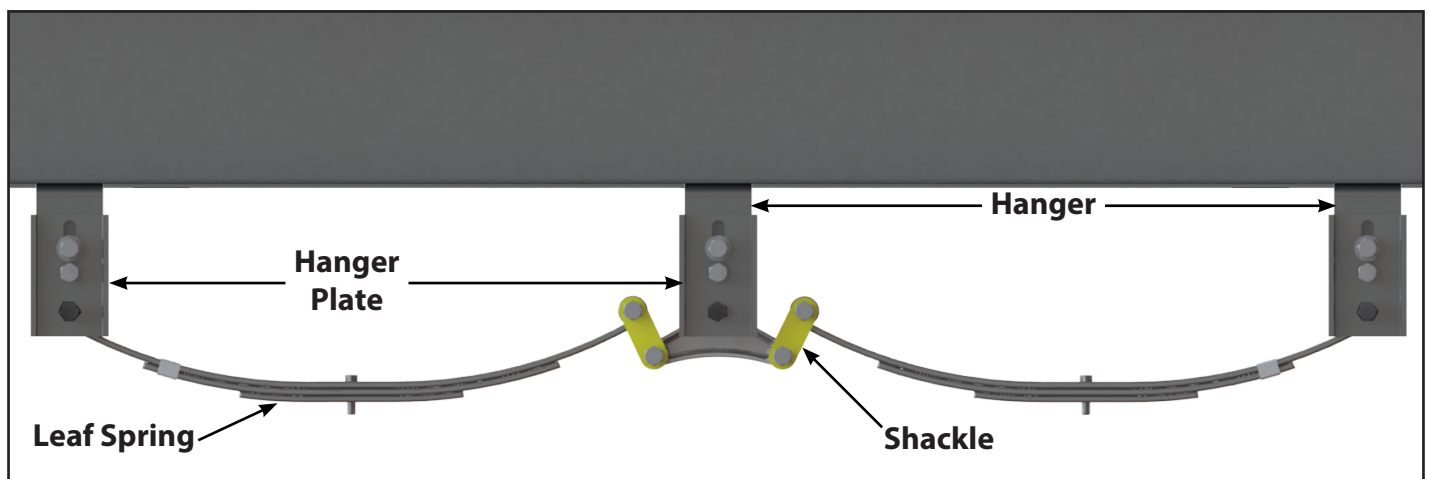

Fig.10
12. Reference Fig. 10 for the completed installation of the LCI Tandem 2" Lift Kit.